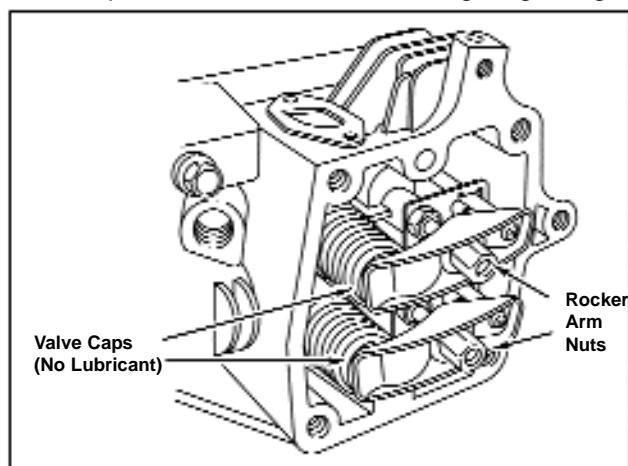

Figure 97 - Installing Rocker Balls and Screws, Typical
3. Place rocker arms on studs and install rocker arm nut and screw while holding rocker arm against valve cap and push rod until rocker ball is finger tight, Figure 97.